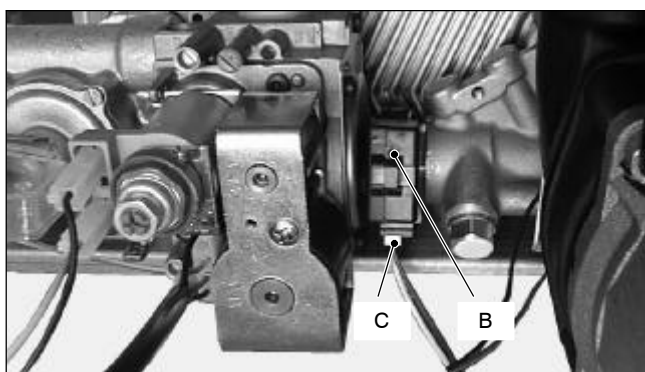

Fig. 56
- 2 Switch on the boiler and open a d.h.w. tap. The lamp *B* (Fig. 56) placed on the sensor body is switched on when the flow rate reaches about 2,5 litres/min'.
- 2 Disconnect the connector *C* (Fig. 56) and remove the sensor by pulling it towards the front of the boiler (the sensor is held in place by means of a spring).